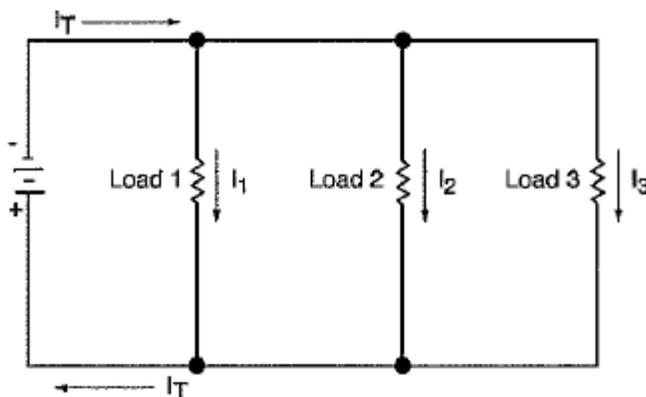

Figure 8.7: Branch Currents in a Parallel
- 8.41 Total current from a battery or generator is the sum of the currents in all the branches of a parallel circuit. The following equation expresses this relationship for the circuit shown in Figure 8.7.